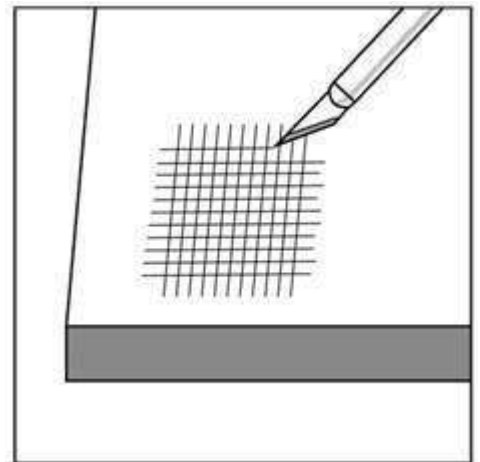

Figure 4d
2. Using a knife with a replaceable blade, make 11 parallel cuts  $\frac{1}{16}$ " apart. At a 90° angle to the first set of 11 cuts and crossing them, make a second set of 11 parallel cuts, also  $\frac{1}{16}$ " apart (Figure 4d). The purpose of the cuts is to break the film plane of the paint.